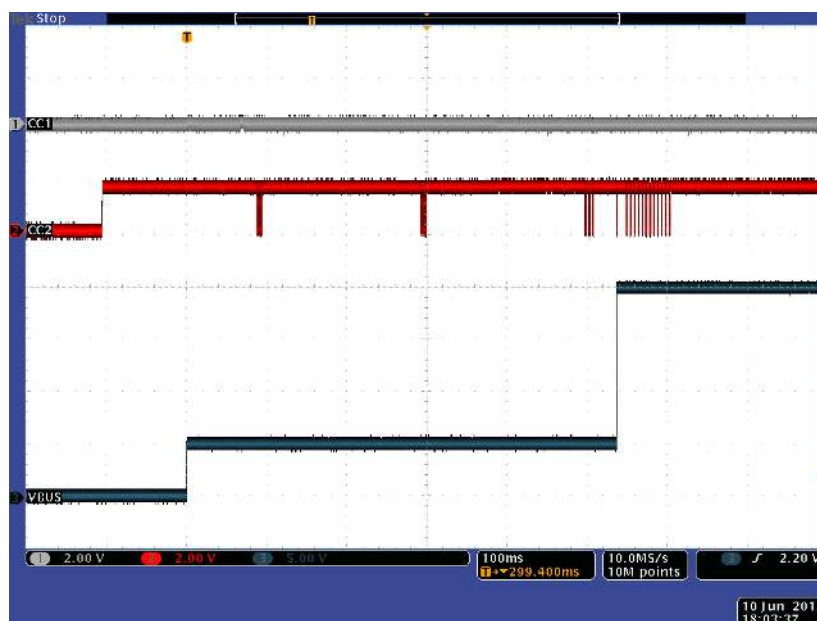

Figure 11. Type-C Connection and PD Negotiation
- Probe VBUS, CC1, and CC2 to check for any anomalies. Figure 11 shows a successful power contract.